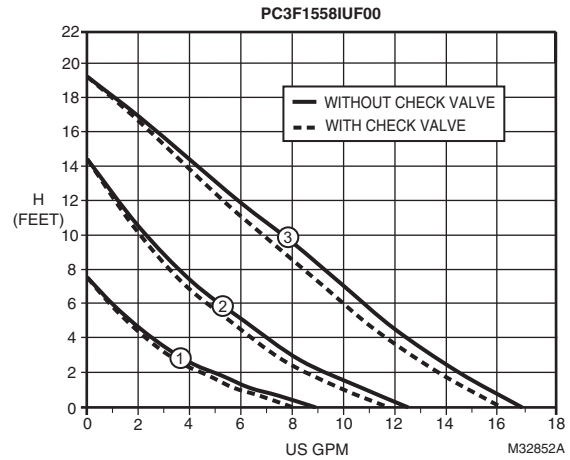

Fig. 2. Flow curve for PC3F1558IUF00.
**Flow Curves:** See Figs. 2, 3 and 4 on page 2.